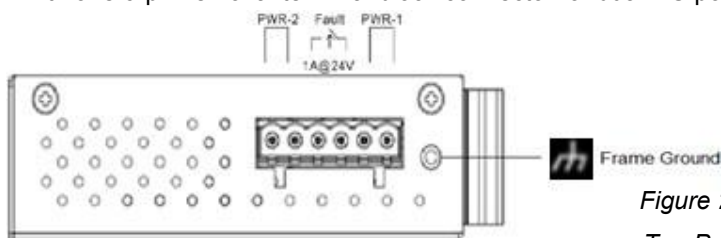

Figure 2.3
*Figure 2.3*, below, shows the top panel of the LMX-0800 series switch that is equipped with one 6-pin removal terminal block connector for dual DC power inputs 12~48VDC.